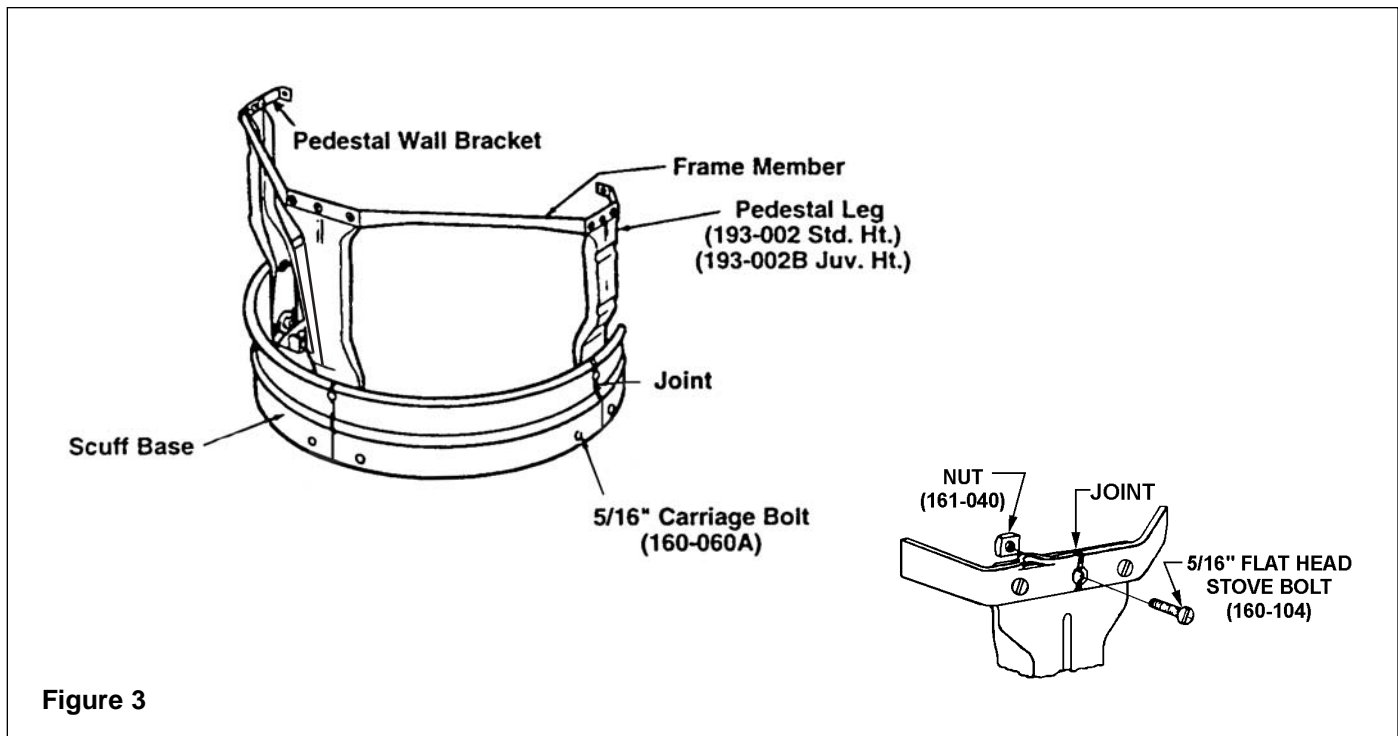

Figure 3
1. Assemble the legs and scuff base panels with the 5/16" carriage bolts and nuts provided (Figure 3).
2. Attach the pedestal frame members with the 5/16" stove bolts and nuts provided (see Figure 3).